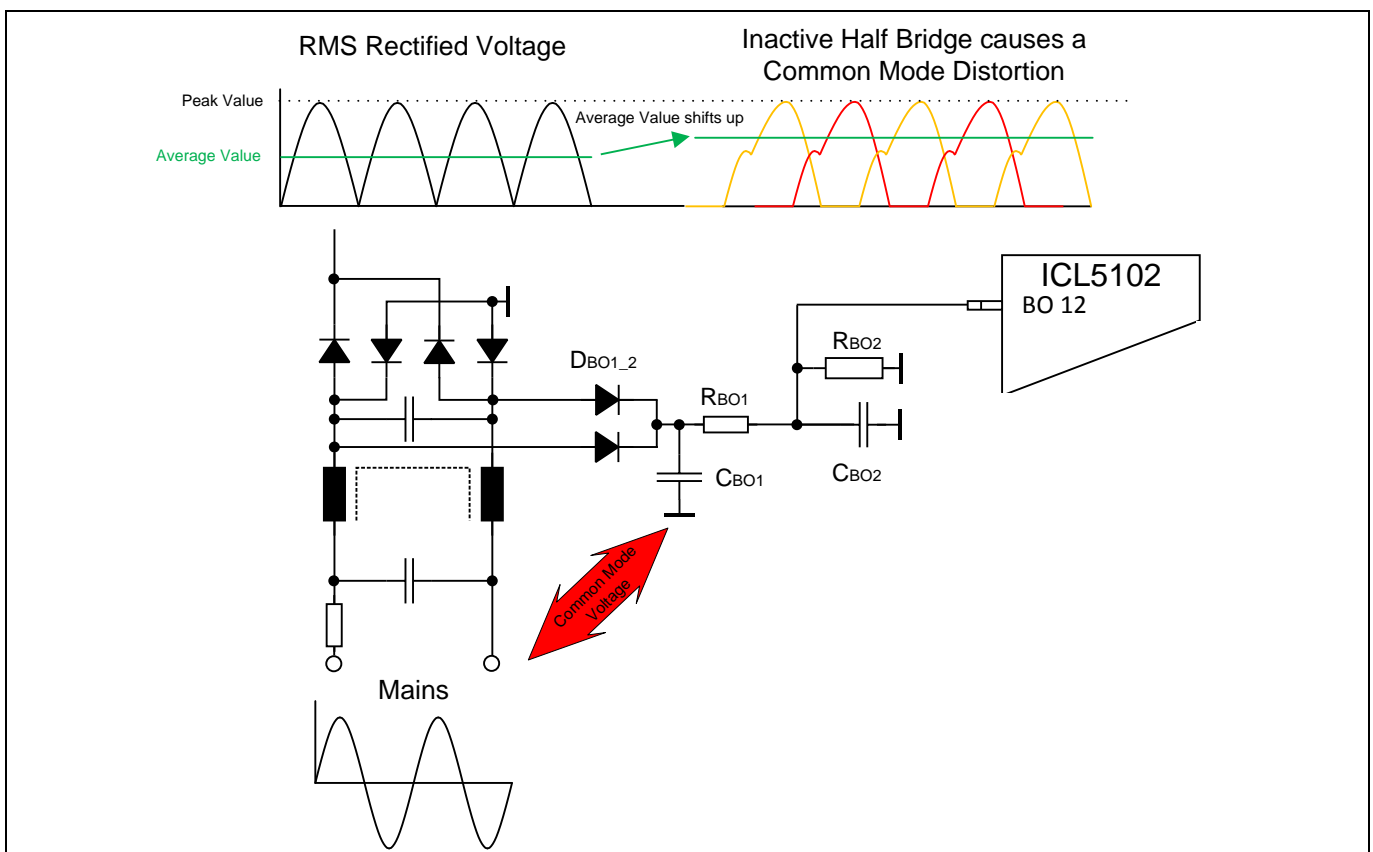

Figure 11 Impact of conducting vs non-conducting (distortion)
The BO detection function of the ICL5102 is based on a DC voltage on pin 12 (BO) that represents the average value of the rectified mains voltage, see Figure 11.
The level at the BO pin becomes incorrect when the half-bridge is not running, at start-up or in RUN mode when a protection shuts off e.g. BO. In both cases, the input diode bridge is not conducting. This causes a Common Mode (CM) voltage from mains to power GND, see the red arrow in Figure 11. It results in a shifting up of the average value of the RMS rectified voltage, see “Common mode distortion” in Figure 11. Note: The peak value stays the same. In order to compensate for this effect place a film capacitor $C_{BO,1}$ from $R_{BO,1}$ (as shown in Figure 11) to power GND.